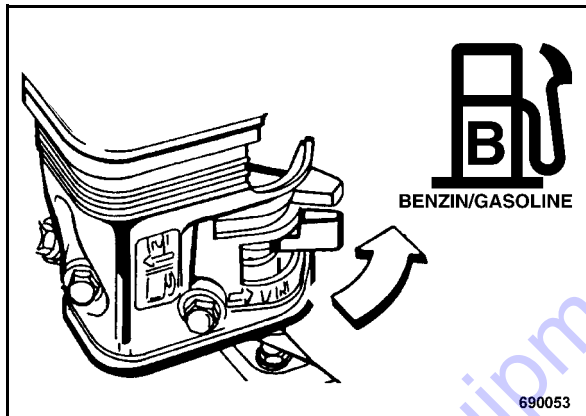

Fig. 63
- Open the fuel tap (Fig. 63) by turning in direction of arrow.